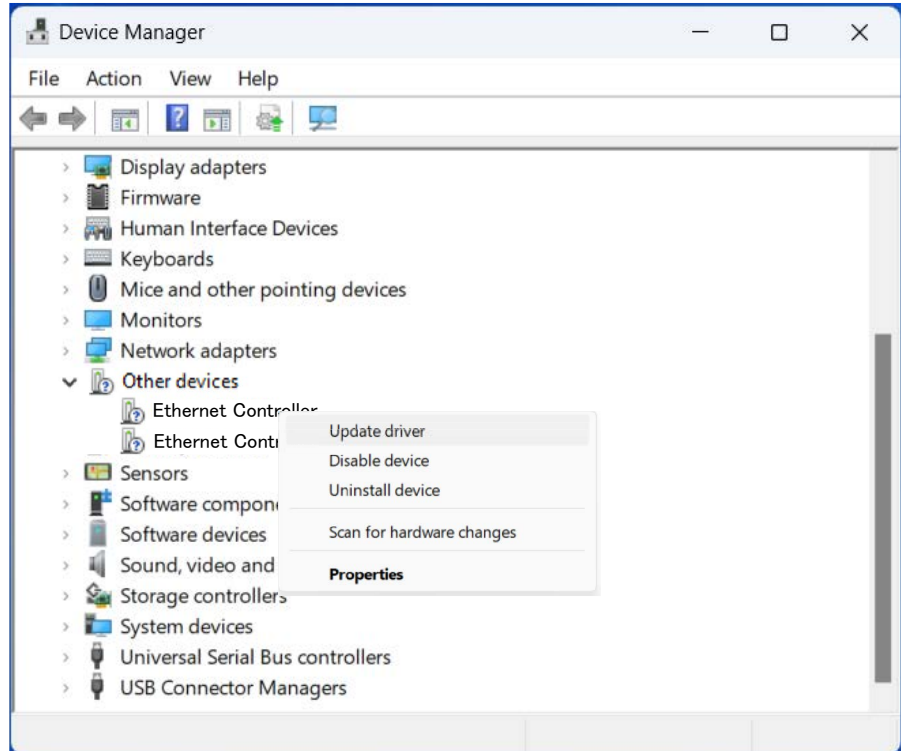

Figure 9. Ethernet Controller in Device Manager
4. In the shortcut menu, select **Update driver**. See Figure 9.